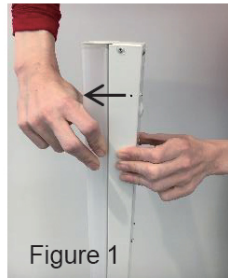
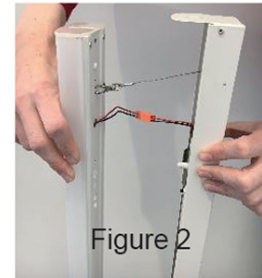

Figure 1
Figure 2
3. Pull the lens module straight away from the body (Figure 1). Note: The luminaire is shipped with the lens module secured to the fixture body using safety cables (Figure 2).